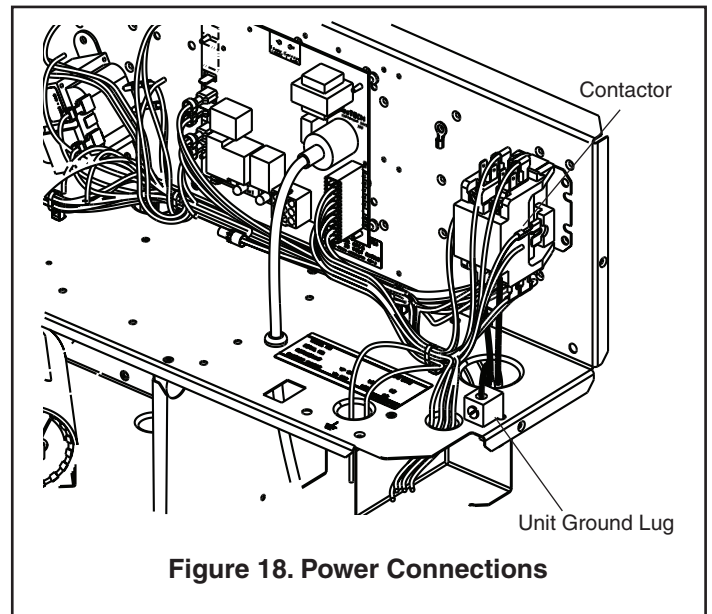

Figure 18. Power Connections
2. Connect the high voltage wires to the appropriate contactor terminals. Single phase units use a two (2) pole contactor and three phase units use three (3) pole contactor. Connect the ground to the ground lug on the chassis. See Figure 18.